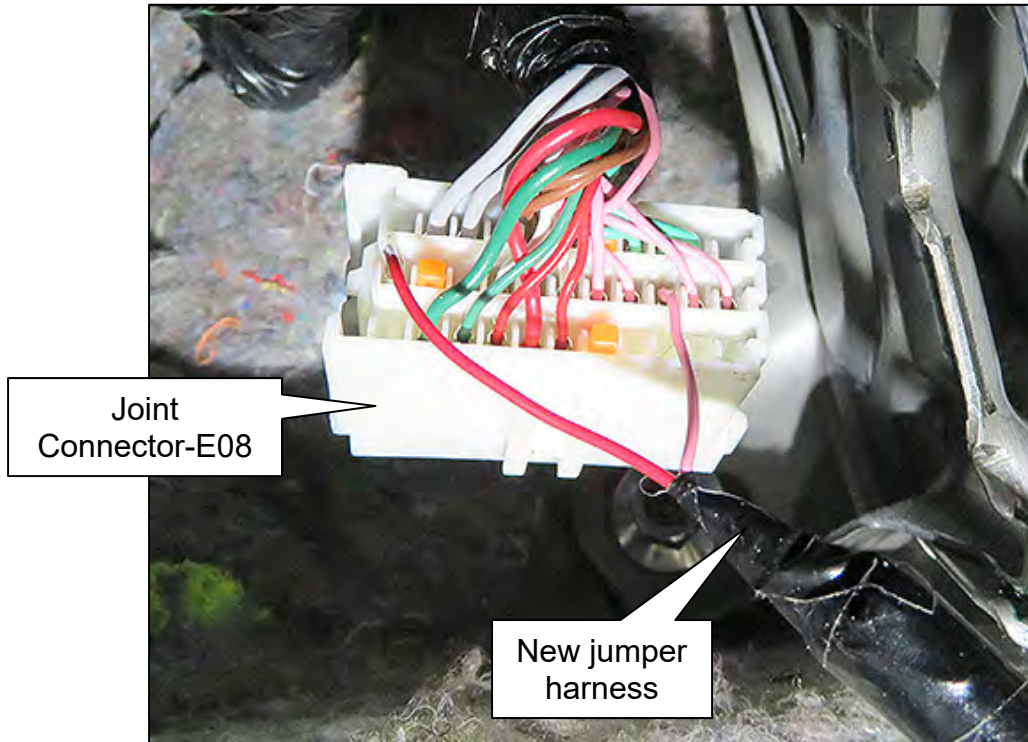

Figure 21
22. Insert the terminal of the red wire (of the new jumper harness) into the cavity of Joint Connector-E08 indicated in Figure 21.